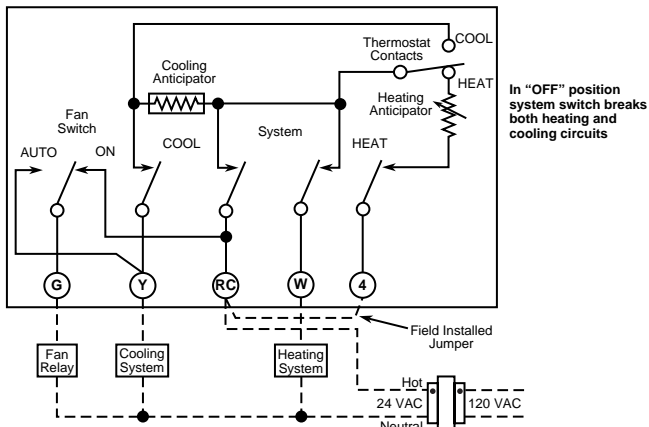

Figure 2. For installations where heating and cooling systems are powered by the same transformer
2. Pull wires through opening near center of subbase and connect wires beneath terminal screws (see figs. 2 and 3 for typical wiring for each application).